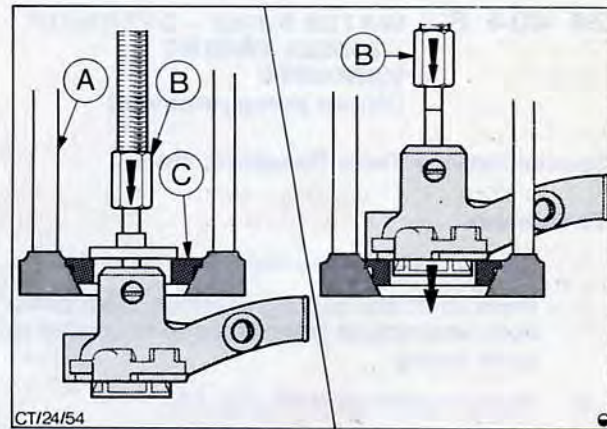

Fig. 12. Pressing pump pulley hub from shaft and bearing shaft assembly from pump body
1. Withdraw pump pulley hub from shaft by supporting hub over a split ring 'C' in Fig. 12 mounted in a press 'A' in Fig. 12 and pressing shaft and pump assembly clear.
2. Support pump body on press and press out bearing shaft, seal and impeller as an assembly, from pump body, Fig. 12.